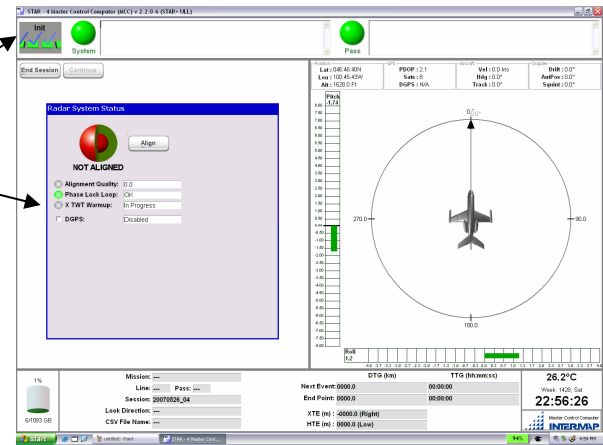

Figure 17: Init State: Align button not pushed.
- 4) Observe Pre-flight Progress as shown in Figure 17: